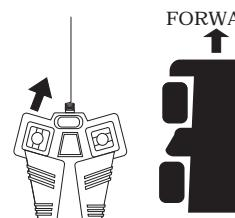

Figure 7
3. Start operating by moving speed control joysticks on the left forward. See Figure 7.